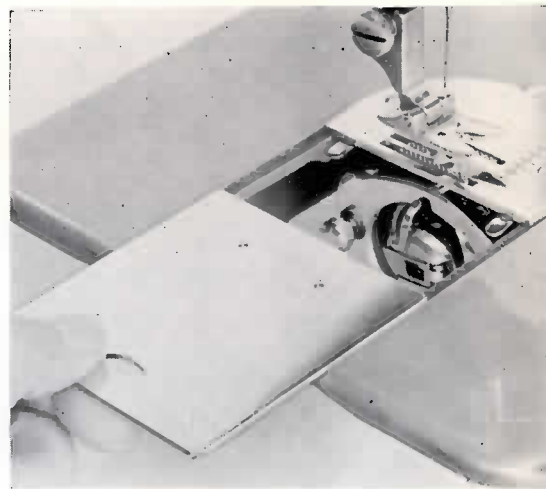

Fig. 6
- 3) pull out slide plate to the left (Fig. 6).